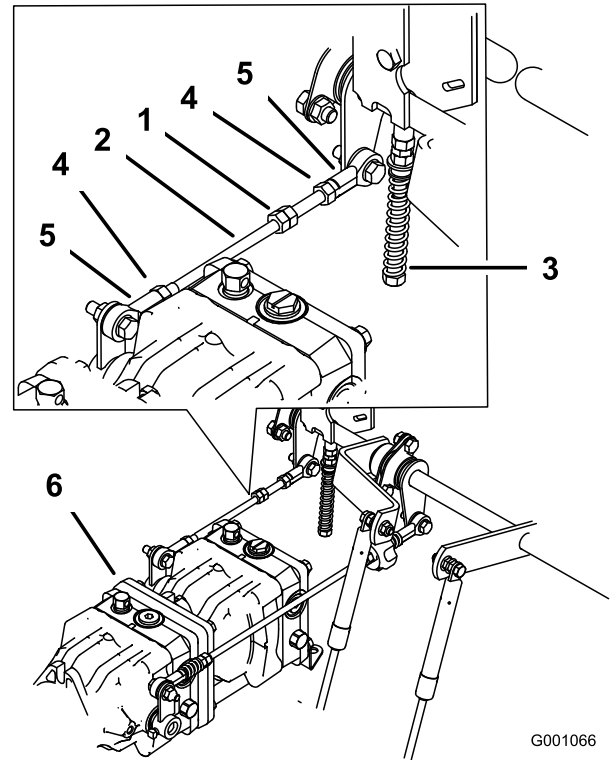

Figure 73
3. Adjust the pump rod length by rotating double nuts on rod, in the appropriate direction, until wheel is still or slightly creeps in reverse (Figure 73).
6. Tighten the locknuts at the ball joints (Figure 73).
1. Loosen the locknuts at the ball joints on the pump control rod (Figure 73).